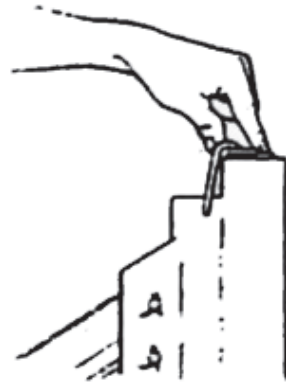

Fig. 25
- Carefully lift the frame/winch about 2.54 cm. to free it from the tripod base. (Fig 25)